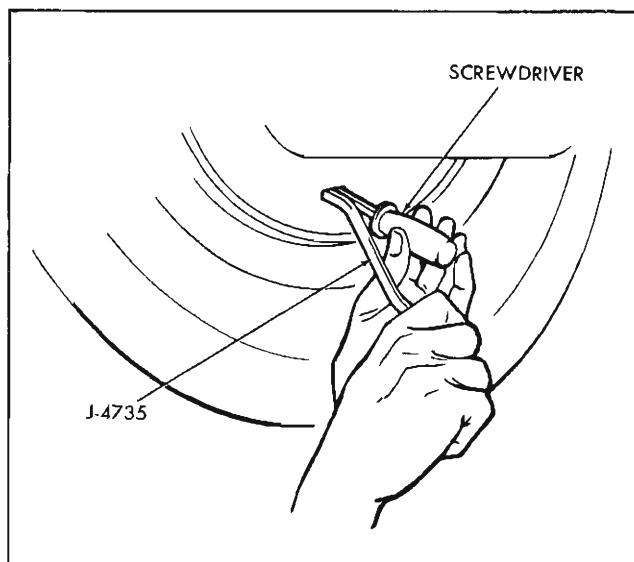

Fig. 5-6 Preparing to Back Off Adjusting Screw
2. Insert a small rod or screwdriver through the adjusting screw slot in the backing plate and hold automatic adjuster lever away from the adjusting screw star wheel (Figs. 5-6 and 5-7).
4. Insert a small rod or screwdriver through the adjusting screw slot in the backing plate and hold automatic adjusting lever away from the adjusting screw star wheel (Figs. 5-6 and 5-7).